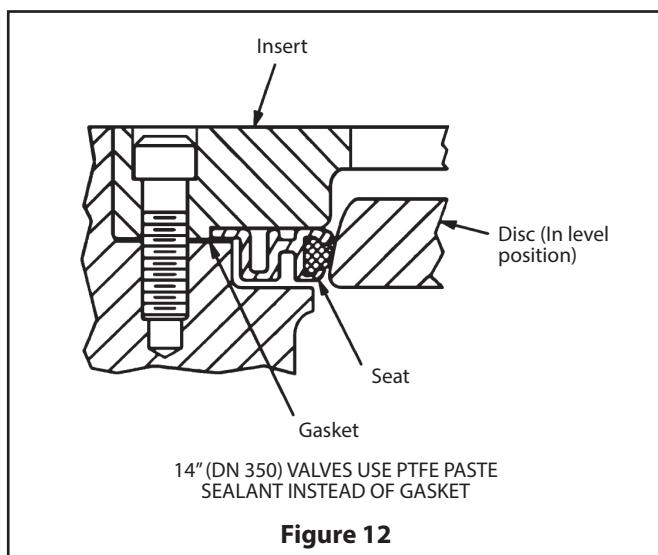

Figure 12
8. If the disc (3) is slightly damaged, it may be possible to smooth the sealing surface with crocus cloth, a fine stone, or the equivalent. If deep scratches are present, replace the disc or return the valve to the local Metso center.
10. A gasket is required between the seat tail and body as shown in (**Figure 12**). The valve uses a graphite type gasket (except 14" [DN 350] which uses PTFE paste sealant). This is installed in accordance with the following steps: